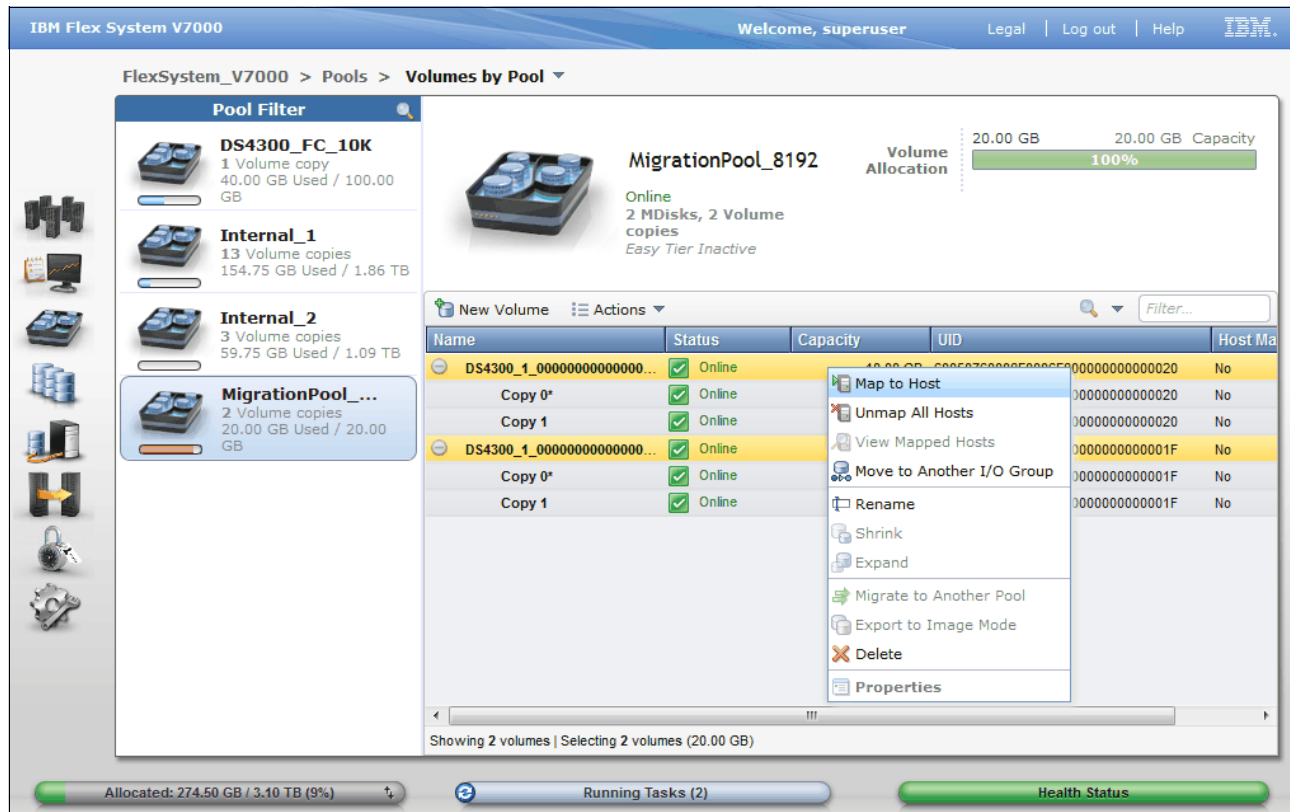

Figure 7-28 After Migration start - Map to host
- ▶ Figure 7-28 on page 289 shows how to navigate to **Pools** → **Volumes By Pool** from where we locate the volume being migrated - right click the volume and click **Map to Host**. The same can be done by selecting the volume and from the **Actions** menu select **Map to Host**.